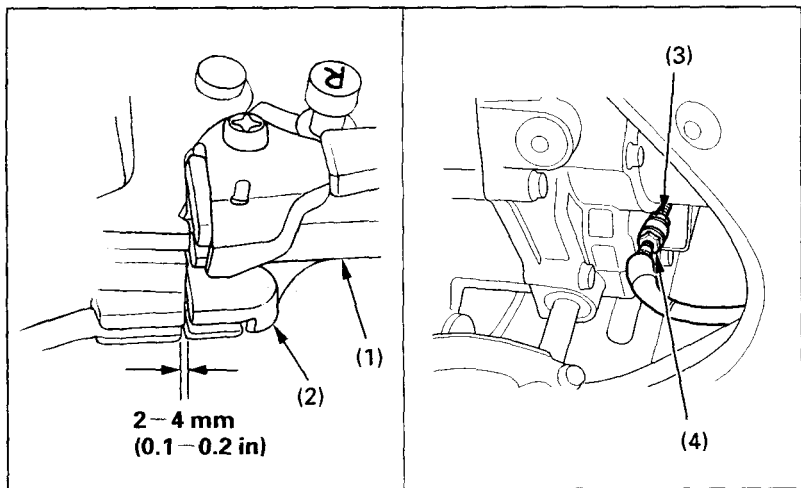

Fig. 4-16 (1) Rear brake lever
Measure the reverse assist lever (2) free play. Free play, measured at the lever (2) end near the cable (Fig. 4-16), should be approx: